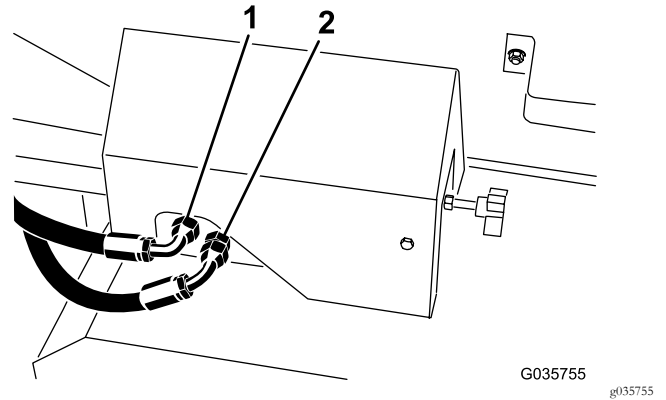

Figure 21
2. Remove plugs and install the previously removed hoses from the front of the manifold block (Figure 21).